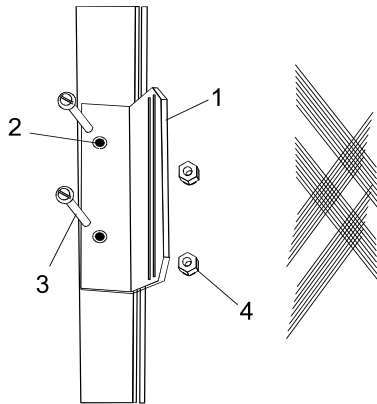

Fig. 6
2. With door fully closed, drill out center bar rivets and locate the outer door handle (1) (with a 5/32 drill bit where rivets have been removed (see Fig. 6)).